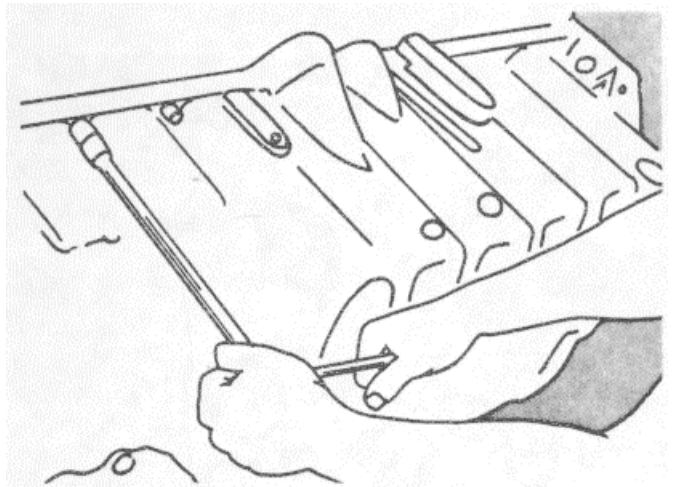

Figure 16B-50. Remove the Lubricating Oil Pan
2. Remove the lubricating oil pan (sump) from the adapter, Figure 16B-50